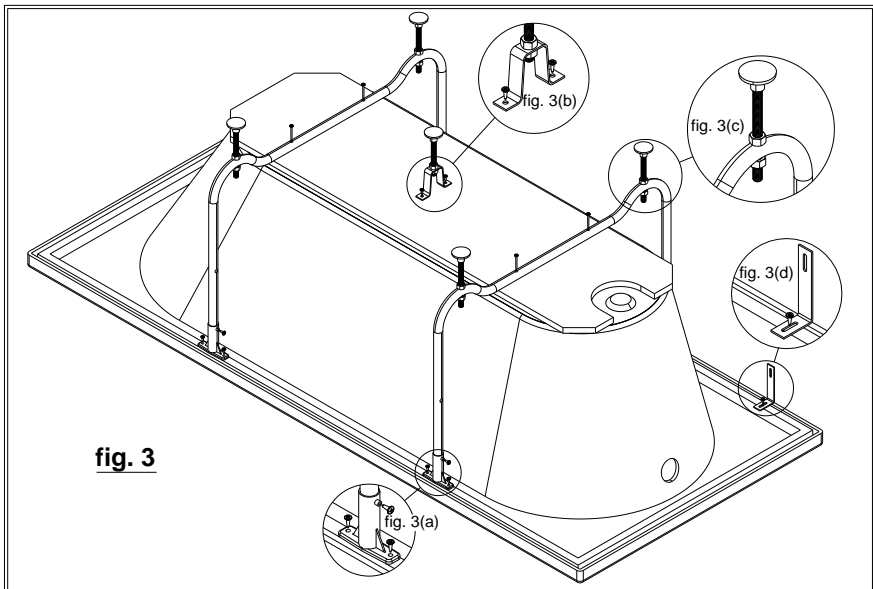

fig. 3
4. Choose the style of bath that best matches your bath (ref fig. 1). Position the plastic sockets as shown & secure to frame (ref fig. 3(a)).
6. Pilot drill 4 off plastic socket through one side of support leg using Ø3mm drill bit (ref fig. 3(a)).
7. Secure support legs to plastic socket using 4 No. 4 x 12mm long pozi-head self tapping screws (ref fig. 3(a)).
8. Secure centre-support bracket using 2 No. 4 x 16mm long countersunk pozi-head woodscrews (ref fig. 3(b)).
9. Fit 4 off M10 x 152mm long adjustable feet using M10 nuts provided (ref fig. 3(c)), then 1 off M10 x 120mm long adjustable foot for centre-support bracket to give required floor to rim height
10. Fix 2 off wall brackets to support frame using 2 No. 4 x 16mm long countersunk pozi-head woodscrews as indicated (ref fig. 3(d)).